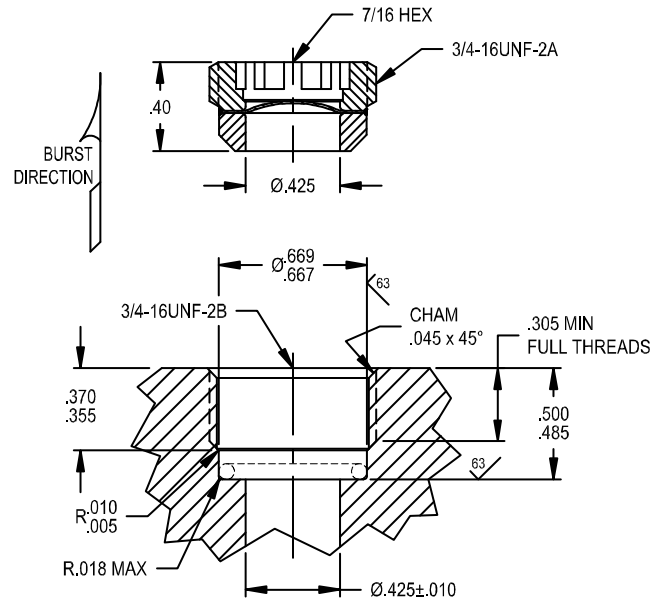

FIGURE 2:
- Reference Figure 2 for the 11mm PAD and port dimensions and o-ring location.